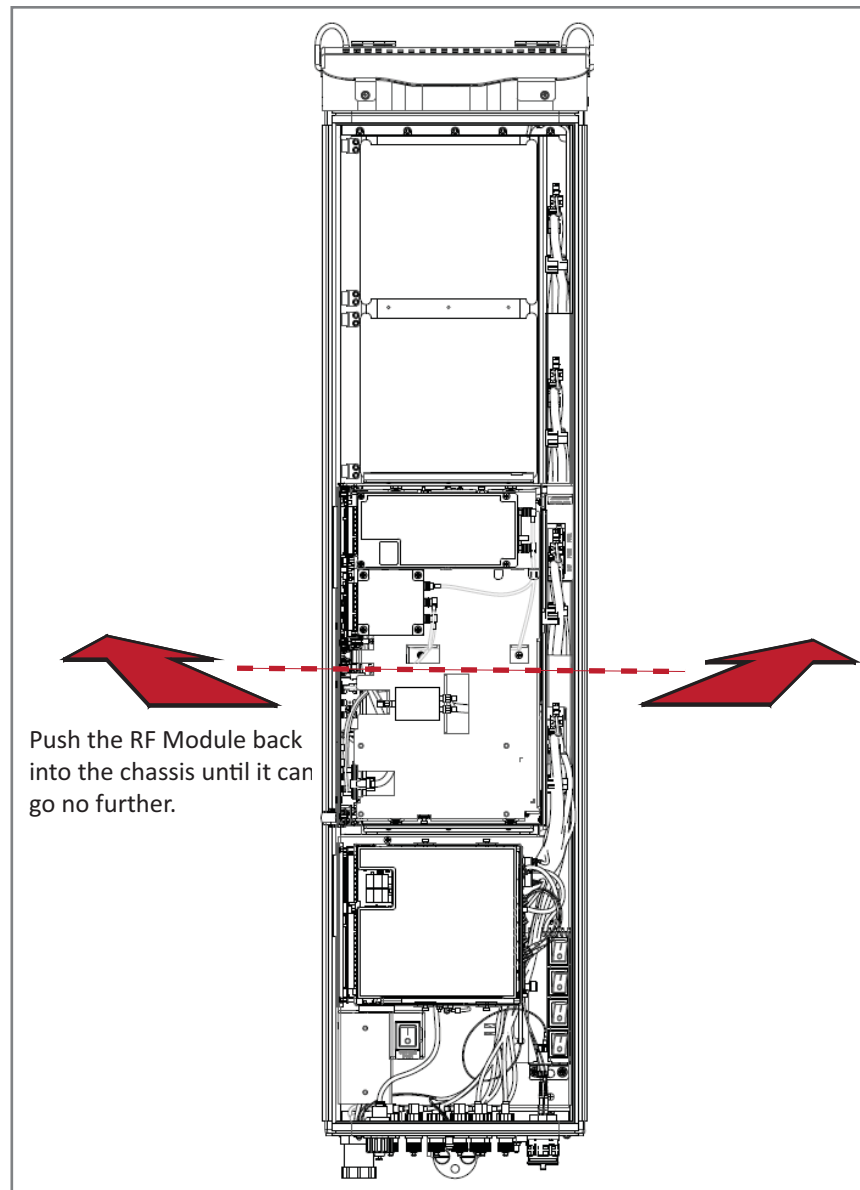

Figure 27. Seating a Dual-Bay RF Module
- For Dual-Bay RF Modules, see Figure 27 on page 93, which uses the Legacy Dual-Bay 40W RF Module as an example.